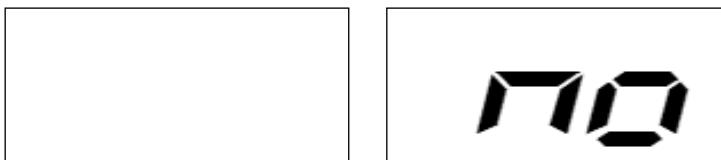
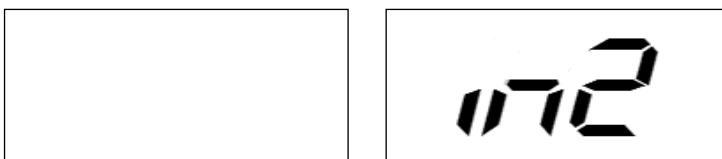

Fig. F6.2 Balance weight hiding function unavailable or selected position not allowed
Fig. F6.4 Inputting position of W
- 2) Press [F+P5] to run the balance weight hiding function. When the outer side is balanced, the machine will display the message shown in Fig. F6.2 for one second and give three beeps to indicate that this operation is not available.
- 6) If the angle is larger than 120 degrees, the machine will display the message shown in Fig. F6.2 for one second and give a beep to indicate selecting another position. If the angle is less than 120 degrees, the machine will display the message shown in Fig. F6.4 to allow the next step.
- 8) If the angle is larger than 120 degrees, the machine will display the message shown in Fig. F6.2 for one second and give a beep, and enter Step 7 again. If the angle is less than 120 degrees, the machine will immediately display the value of W2.